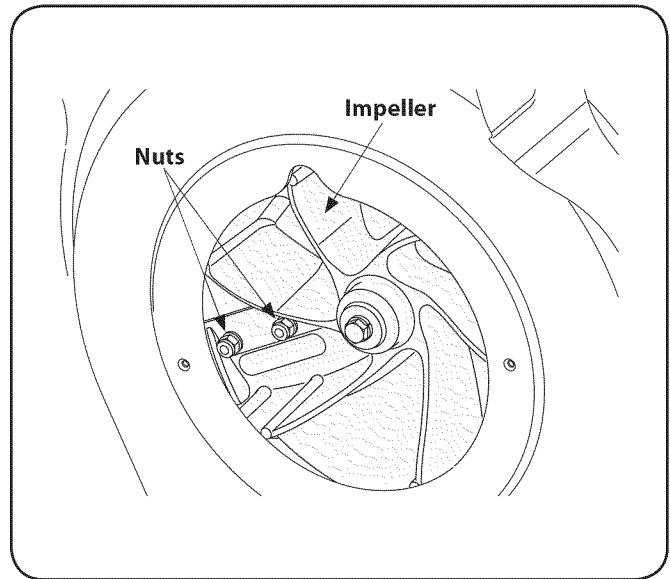

Figure 7-6
- The nuts on the flat head cap screws can be reached from underneath using a 1/2-inch socket, universal, and extension. See Fig. 7-6.